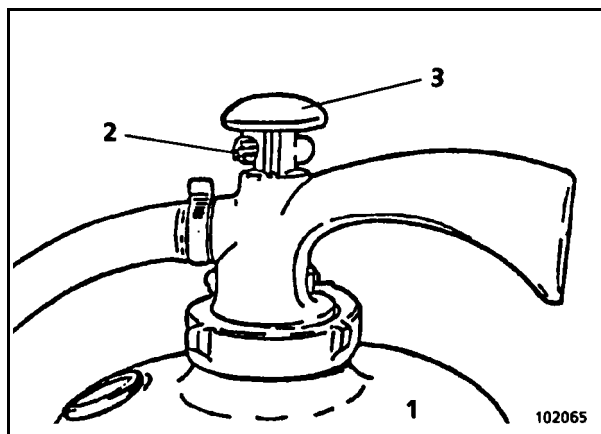

Fig. 2-22:
- Pull out securing pin (2, Fig. 2-22:).
- Strike knob (3) hard, then release again.